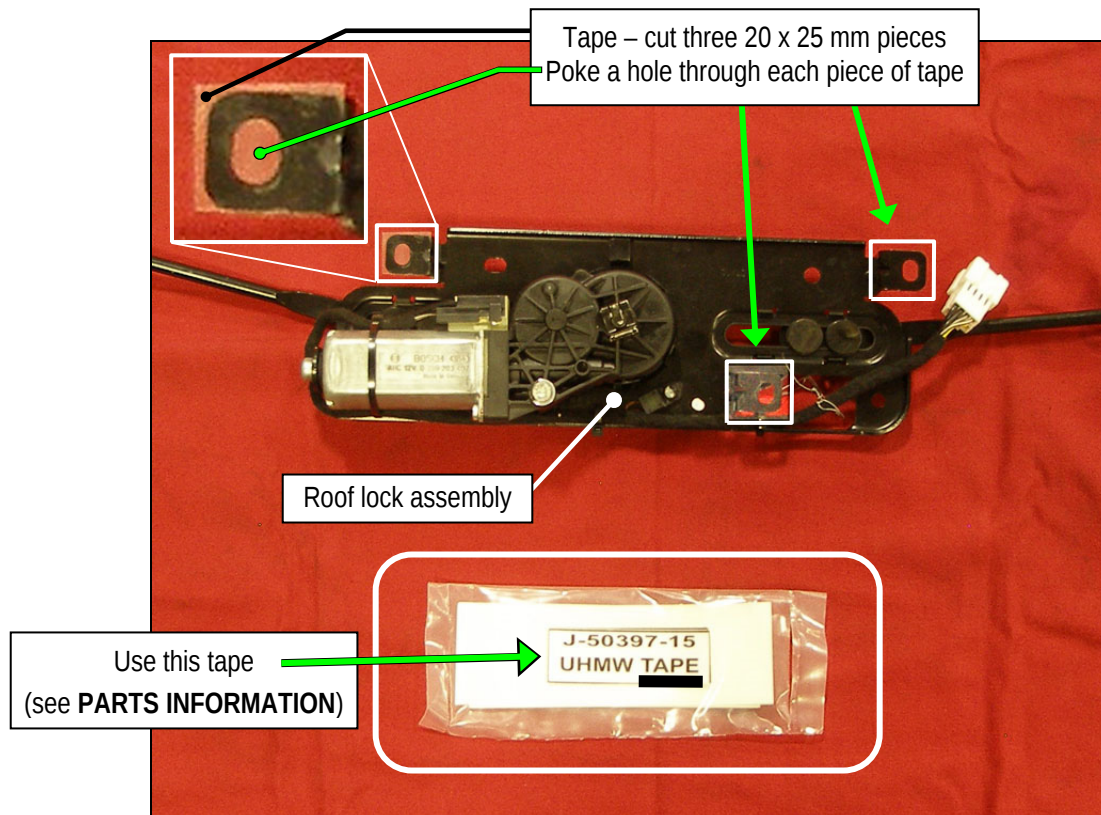

Figure 11a
3. Apply tape where shown in Figure 11a.